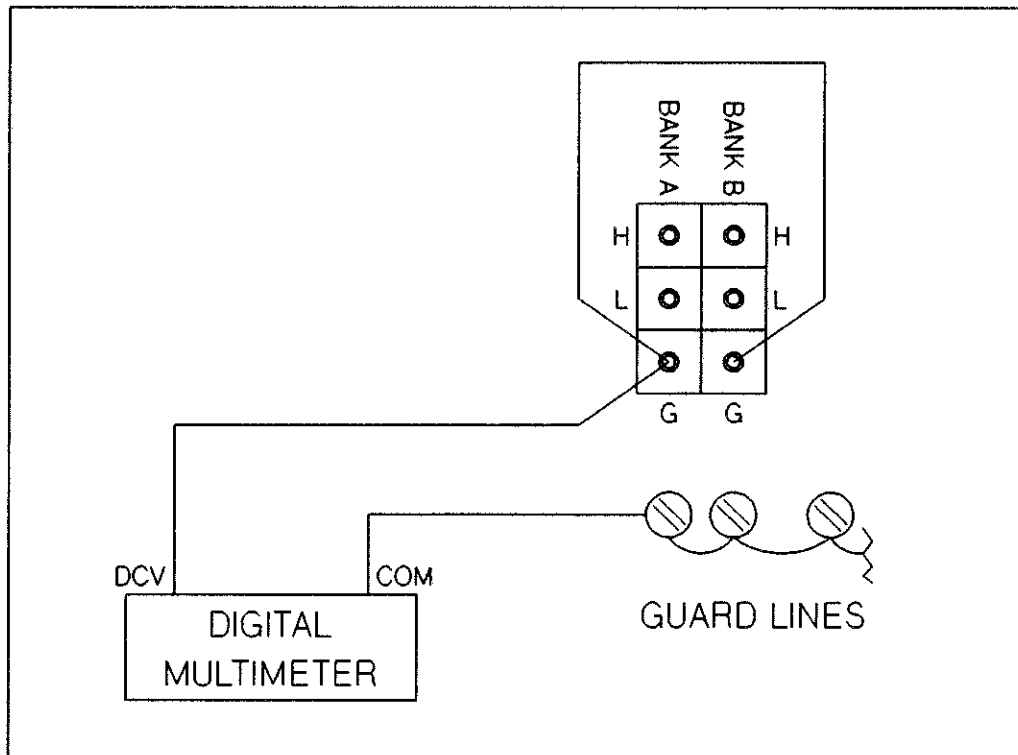

Figure 9-9 HP 44709A/44710A GUARD Channel Test Set-Up
10. Refer to Figure 9-9. Connect the multimeter DCV lead to the Bank A GUARD test point on the test fixture. Connect the multimeter COM lead to the shorted GUARD connections of the channels. Short the Bank A and Bank B GUARD common test points together.